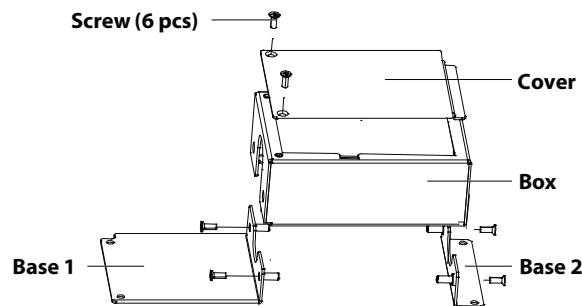

Figure 16: Splitting the box assembly
2. Take out the box assembly from the accessories and split it into cover, box, Base 1 and Base 2, as shown in Figure 16. Set the six screws aside for reassembly of the hardwire box.